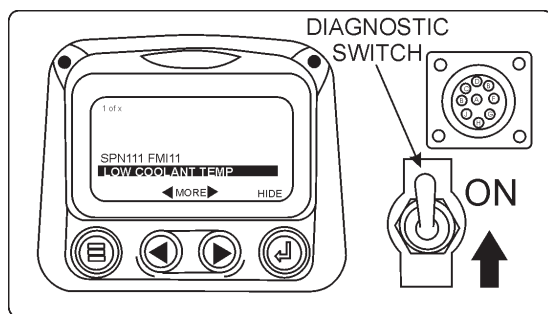

Figure 43. Active Fault Code Message
- Place the Diagnostic ON/OFF switch in the **ON** position. Verify that an Active Fault Code message is being displayed (Diagnostic Display Panel). The fault code message will continue to be displayed until the fault has been corrected. Figure 43 shown below is a typical example of an active fault code message (Low Radiator Coolant).